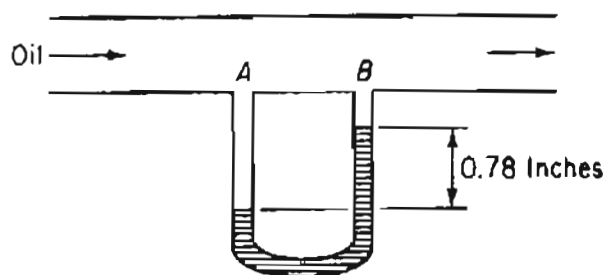

Figure P5.22
- *5.22** Examine Figure P5.22. Oil (density = 0.91 g/cm³) flows in a pipe, and the flow rate is measured via a mercury (density = 13.546 g/cm³) manometer. If the difference in height of the two legs of the manometer is 0.78 in., what is the corresponding pressure difference between points A and B in mm Hg? At which point, A or B, is the pressure higher? The temperature is 60°F.